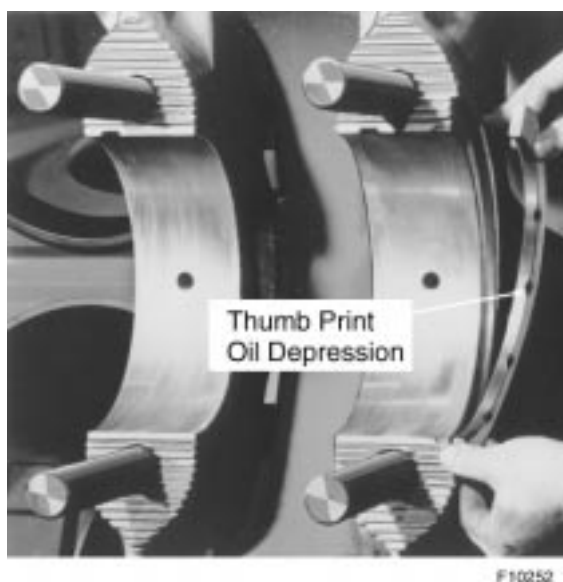

Figure 6-3. Applying Thrust Collar (16 & 20-Cyl. w/ stud mounting)
3. Place the thrust collars in their respective “A” frame counterbores, as shown in Figure 6-3.